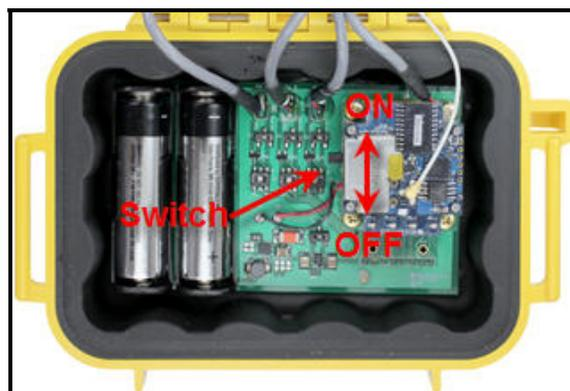

Figure 2. On/Off switch
6. Switch the node On/Off switch to the ON position as shown in Figure 2.